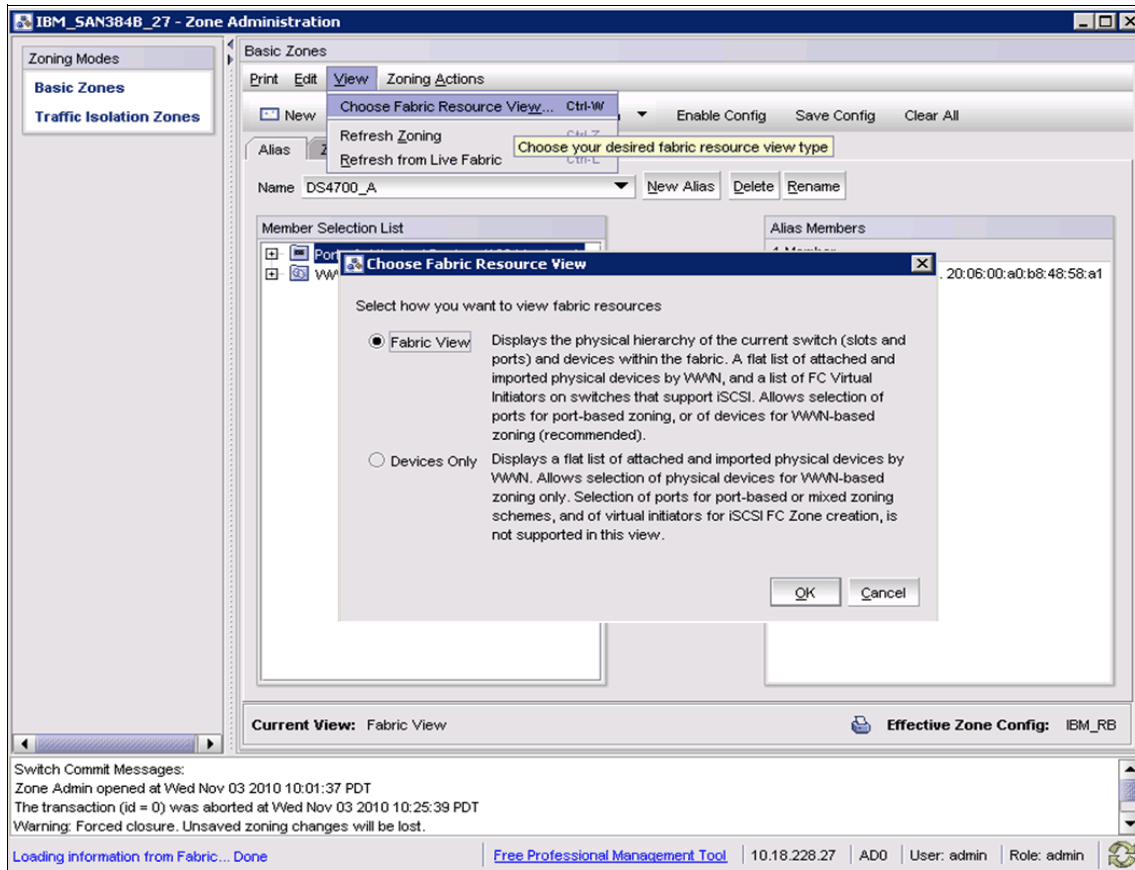

Figure 12-32 Select a format
1. Select a format to display zoning members in the Member Selection by clicking **View** → **Choose Fabric Resources View**, then. Select **Fabric View** or **Devices Only** as shown in Figure 12-32.